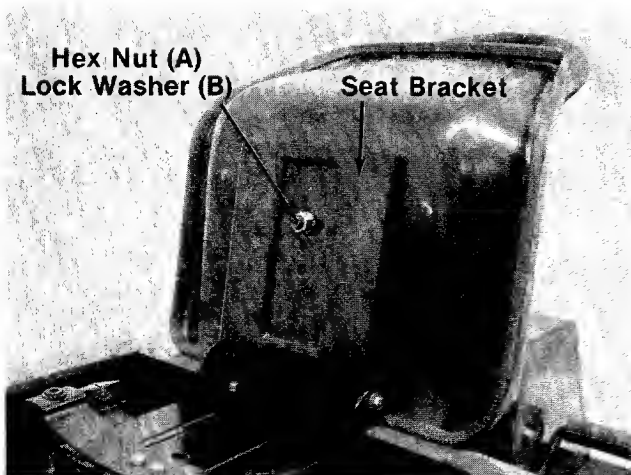

FIGURE 11.
The seat may be adjusted to three different positions. Select the desired seat position and secure the seat to the **seat bracket** with **hex nut (A)** and **lock washer (B)**. See figure 11.